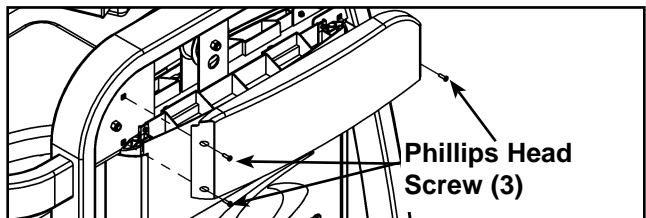

Figure 4
E. Remove the three Phillips head screws securing the top (back) shroud and carefully remove the shroud. See Figure 4.